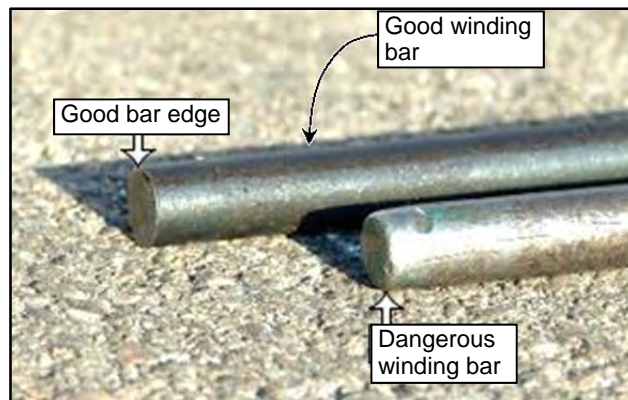
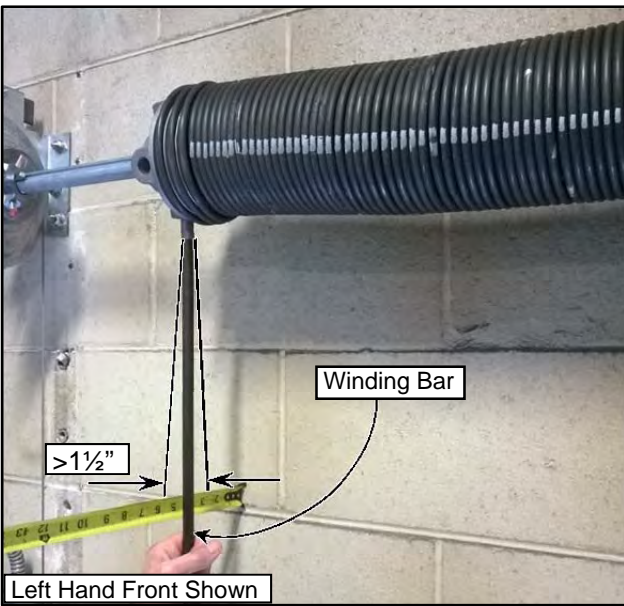

Figure 40
Figure 41
6. Your winding bars must be at least 18" long and fit properly into the winding cone. The edges should be sharp, cut at 90 degrees, not rounded. (See Figure 40)
7. Test the fit of the bar in the cone. Insert one end of your winding bar into one of the holes of the winding cone. Pull down on the bar slightly to make sure the set screws are tight. Position your ruler between the bar and the door. Move the bottom of the bar from side to side and measure the play. It should be less than an inch and a half. If it is over 2" get bars that will properly fit the cones. (See Figure 40 and Figure 41)